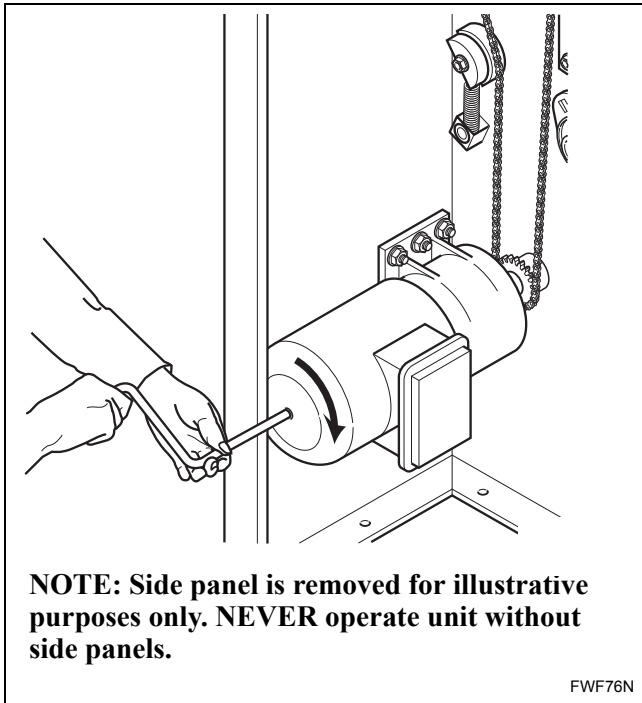

Figure 22
2. Turn the crank clockwise to rotate the cylinder. Refer to *Figure 22*.